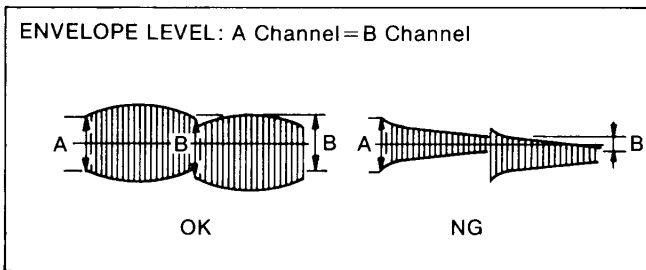

Figure E7
4. Adjust VR2205 so that the RF envelope becomes the same level between A and B portions as shown in Figure E7.